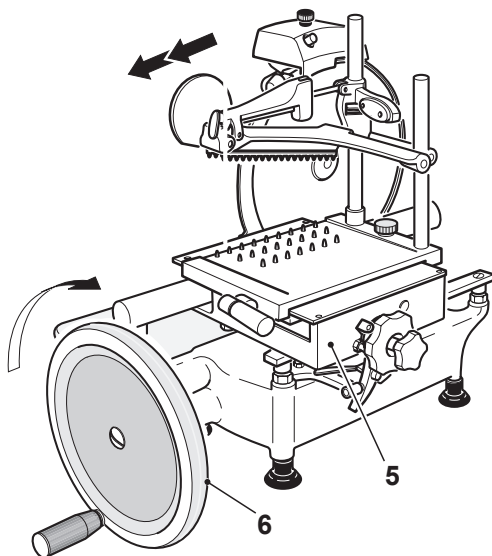

Figure 9-1
1. Turn the flywheel handle (6) clockwise in order to move the carriage (5) to its forward position (towards the operator) (Figure 9-1).